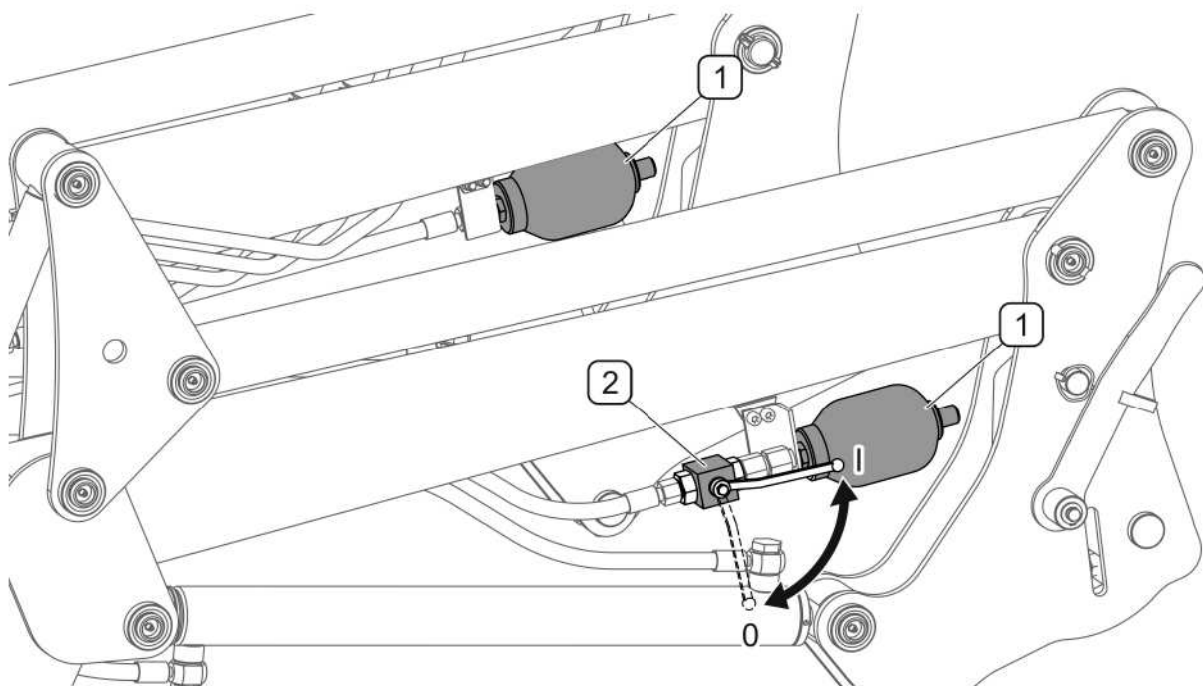

FIG. 4.21A Engaging hydraulic shock absorber
The hydraulic shock absorber may be disconnected setting valve lever (1), (FIG. 4.21A) in vertical position. It is recommended to deactivate shock absorber in work requiring precision of loader setting (e.g. work with pallet forks).